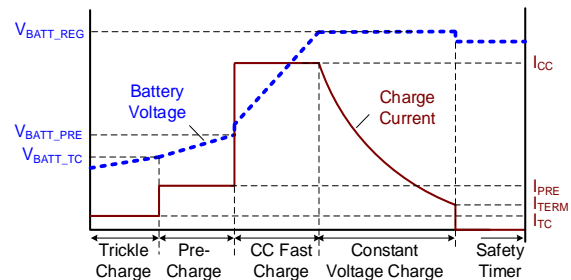

Figure 2: Typical Charge Profile
The IC checks the battery voltage to provide four charging phases: trickle charge, pre-charge, constant current (CC) charge, and constant voltage (CV) charge (see Figure 2). These phases are described below: